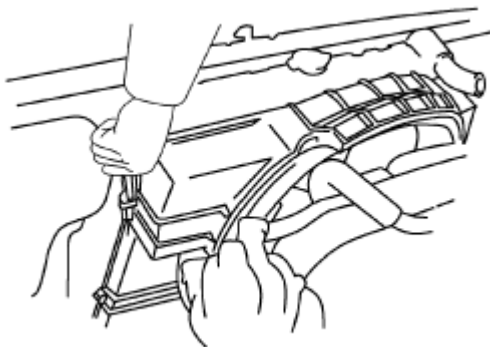

Fig. 7-2-34 Installing the radiator assembly
(1) Install the radiator assembly which has some hoses. See Fig. 7-2-34.
(2) Use the specified torque to tighten the bolts connecting the radiator with the upper support.